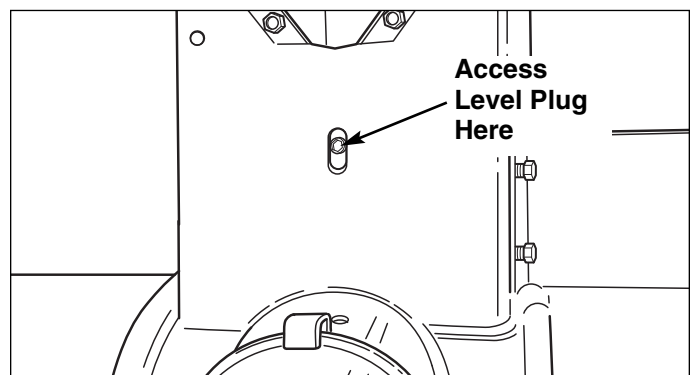

Figure 7. Level Plug Location
4. Access the back level plug through the oblong hole in the top of the snowthrower (see Figure 7).